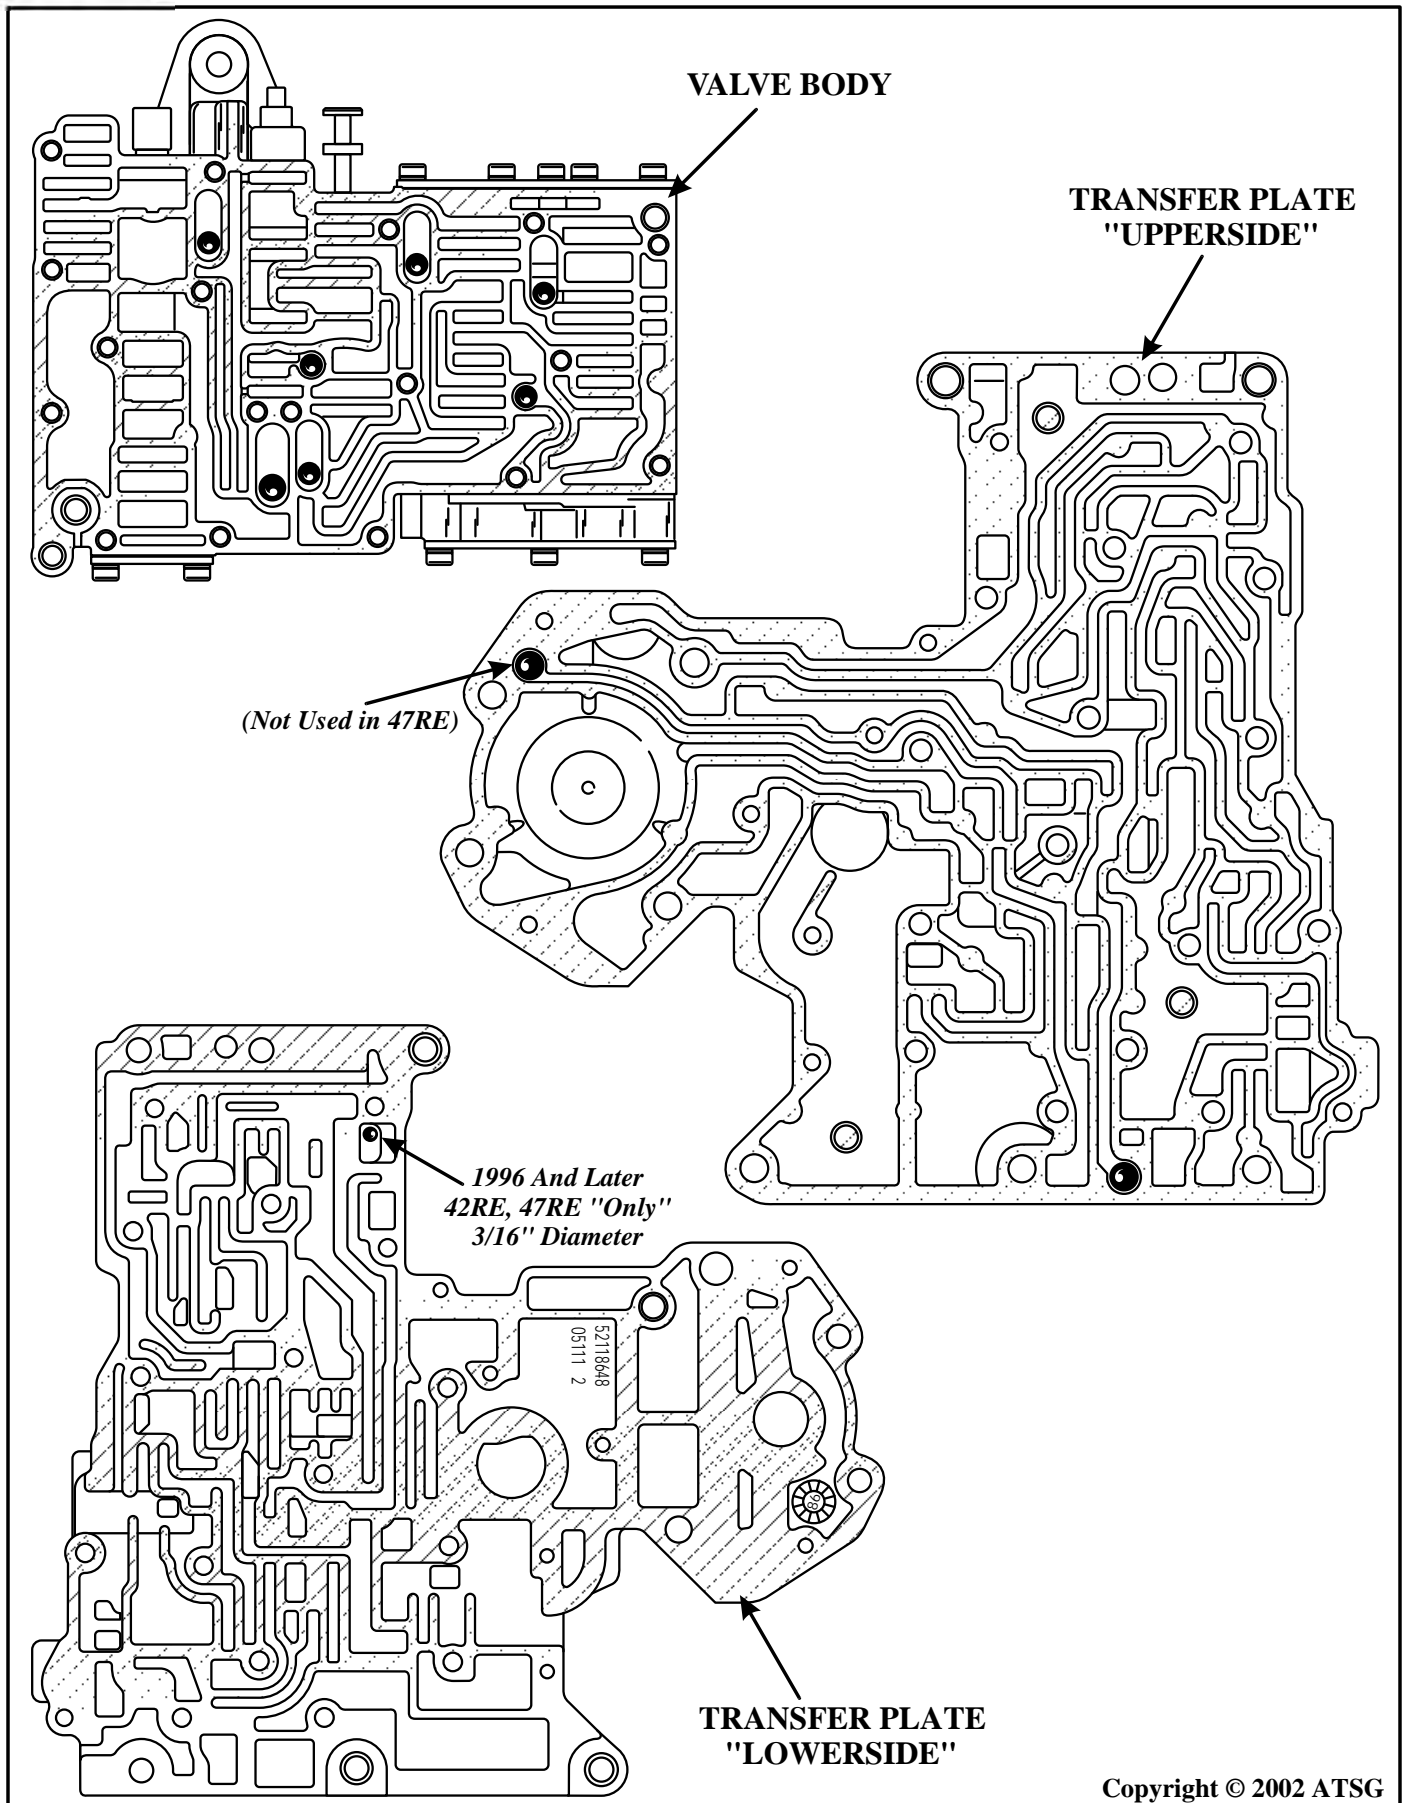

Figure 98
2. Install the rear clutch and rear servo checkballs (1/4" balls) in the transfer plate, in the positions shown in Figure 98.
7. Position upper housing so the internal passages and checkball pockets are facing upward, as shown in Figure 98.
8. Install the checkballs into the upper housing in the positions shown in Figure 98.
9. Note that one of the checkballs is a larger diameter than the other six (See Figure 98).